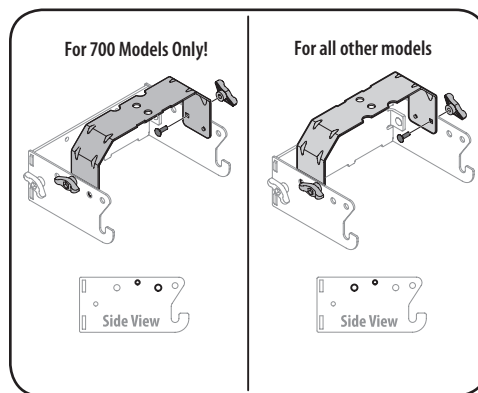

Figure 4-4
2. Flip over assembly and mount the hitch support bracket to the mounting assembly as shown in Figure 4-4.
NOTE: The holes closest to the mounting hooks are to be used for all 700 model series machines, while the two holes closest to the cross mount are for all other models. The hitch support bracket will need to be flipped to enable alignment of the proper holes depending on the model of machine this bagger is being installed on. See Figure 4-4.